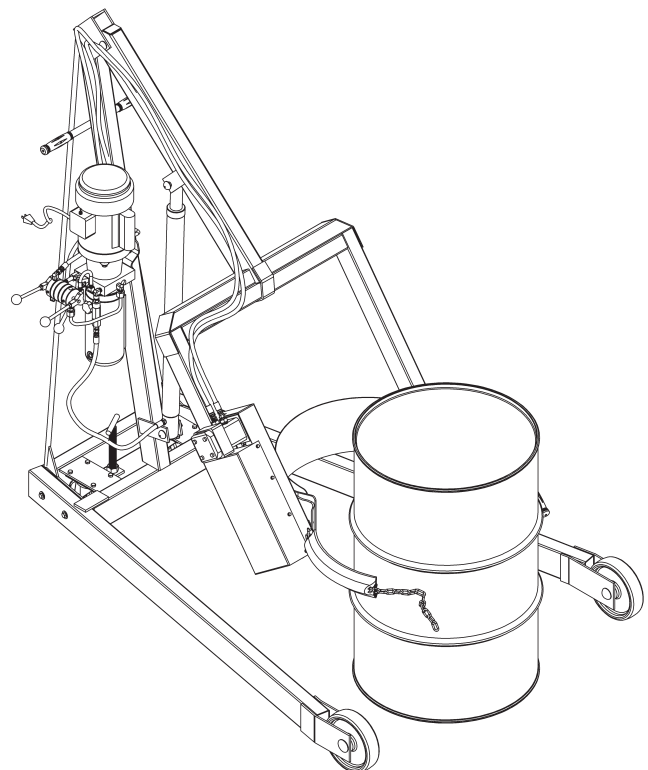

Figure 3.1
The step-down floor lock is located behind the base (figure 3.1). To activate, step down on the floor lock until it locks in down position. When floor lock is activated it prevents unwanted free wheeling of unit. Floor conditions determine effectiveness of floor lock. Operator should verify its holding action before depending on it to hold.
- 2.) Using "LIFT" control as described in "**Machine Description - Controls**", position drum holder assembly with back band at middle of drum. (Figure 3.1). With ratchet plate swung open and cinch chain hanging from chain hook, push unit until back band rests firmly against drum. Some adjustment to tilt angle of saddle may be necessary to ensure band fits flush on drum.